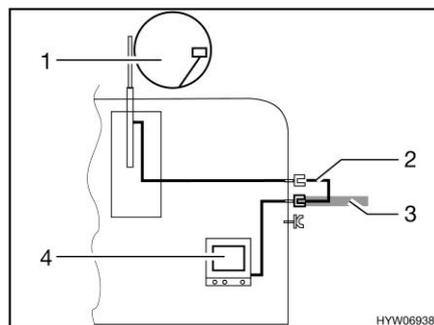

Fig. 199 TV inside the vehicle
- TV inside the vehicle (Fig. 199,4): Connection to roof antenna (Fig. 199,1) with connection cable (Fig. 199,2)
- TV inside the vehicle (Fig. 199,4): Connection to external antenna (Fig. 199,3)